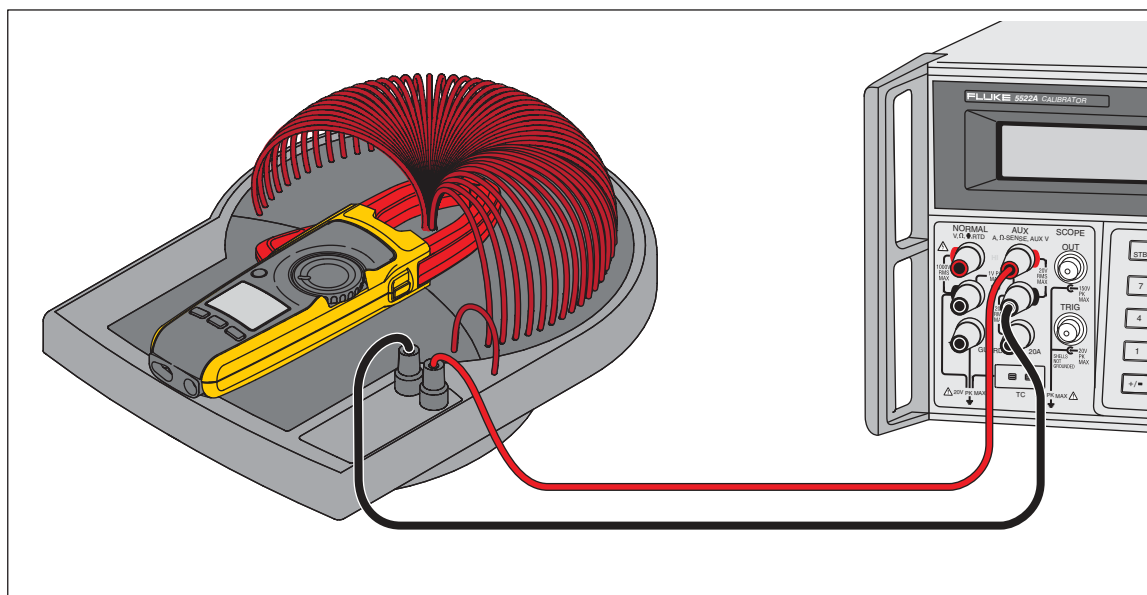

Figure 5. Current Calibration Setup
8. To setup the current calibration see Figure 5.